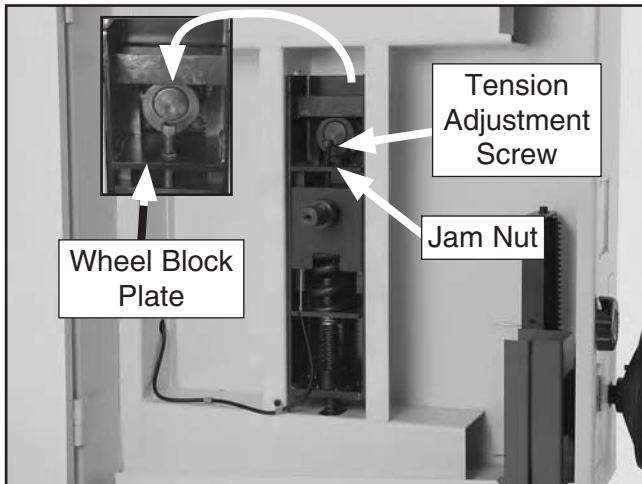

Figure 59. Example of quick release tension lever adjustment screw.
The quick release tension lever is setup correctly for use with the preinstalled 131½" blade. However, if you install a different length blade, you will need to adjust the tension lever adjustment screw (Figure 59) so the quick release tension lever works correctly.
5. Thread the tension adjustment screw (Figure 59) down until it contacts the wheel block plate, then back it off 1-2 turns.